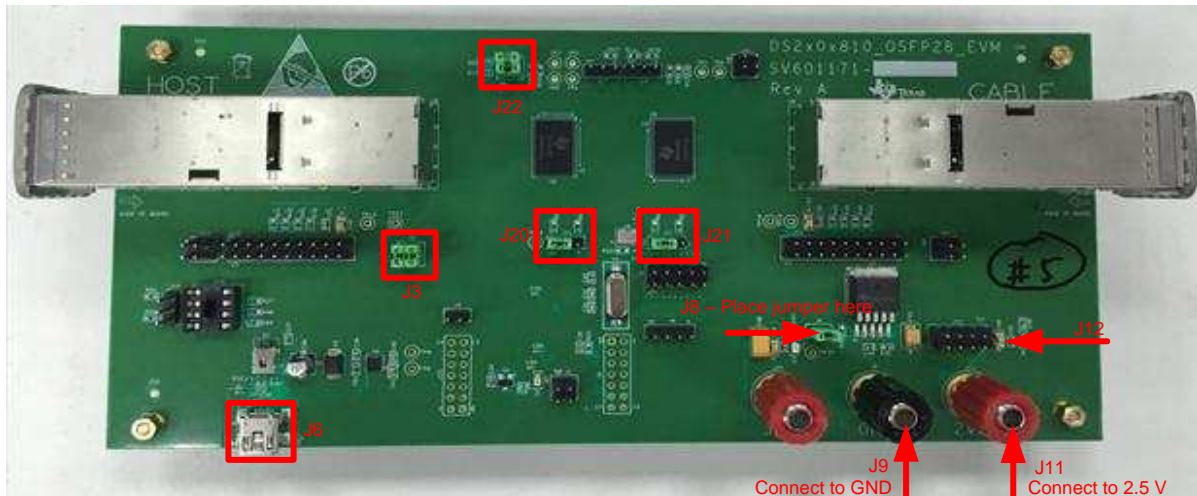

Figure 2. 2.5-V Mode Connections
- 2.5-V use case instructions (see Figure 2):
If powering the board with a 2.5-V power supply, the jumper settings must appear identical to the setup in Figure 2.